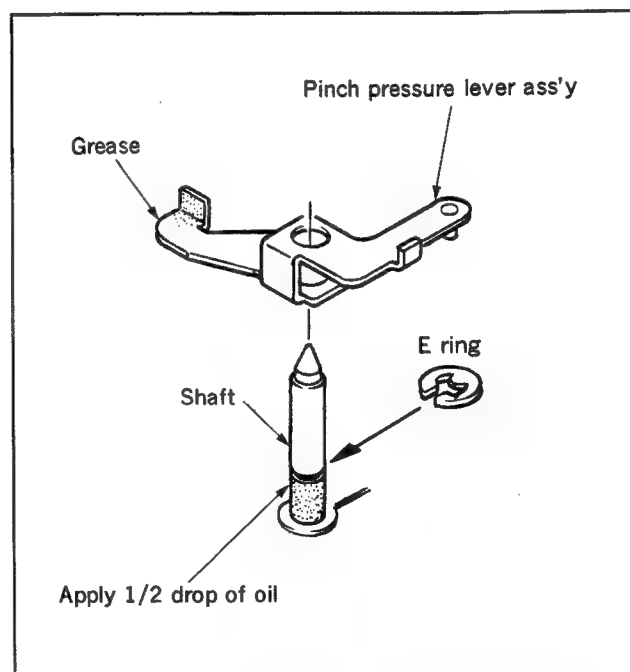

Fig 4-24-4. Pinch pressure lever ass'y installation
- 1) Smear grease to the point indicated in Fig.4-24-4.
- 2) Smear 1/2 a drop of oil to the shaft below the groove, shown in Fig.4-24-4.